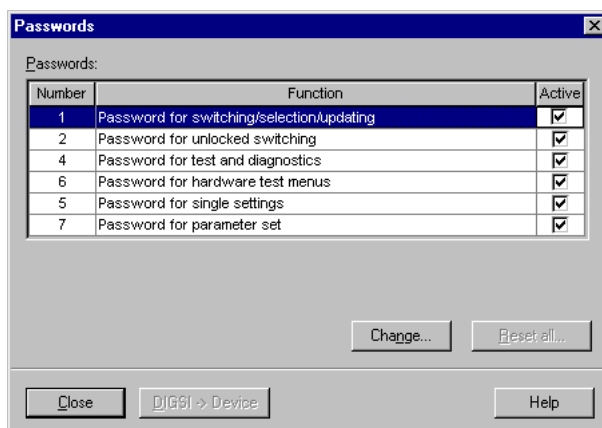

Figure 4-30 DIGSI® 4, window indicating the active passwords — example
- In the Passwords window shown in Figure 4-30, double click on the password to be changed. In the next window (Figure 4-31), enter the present password, the new password, and confirm with the new password again and **OK**.